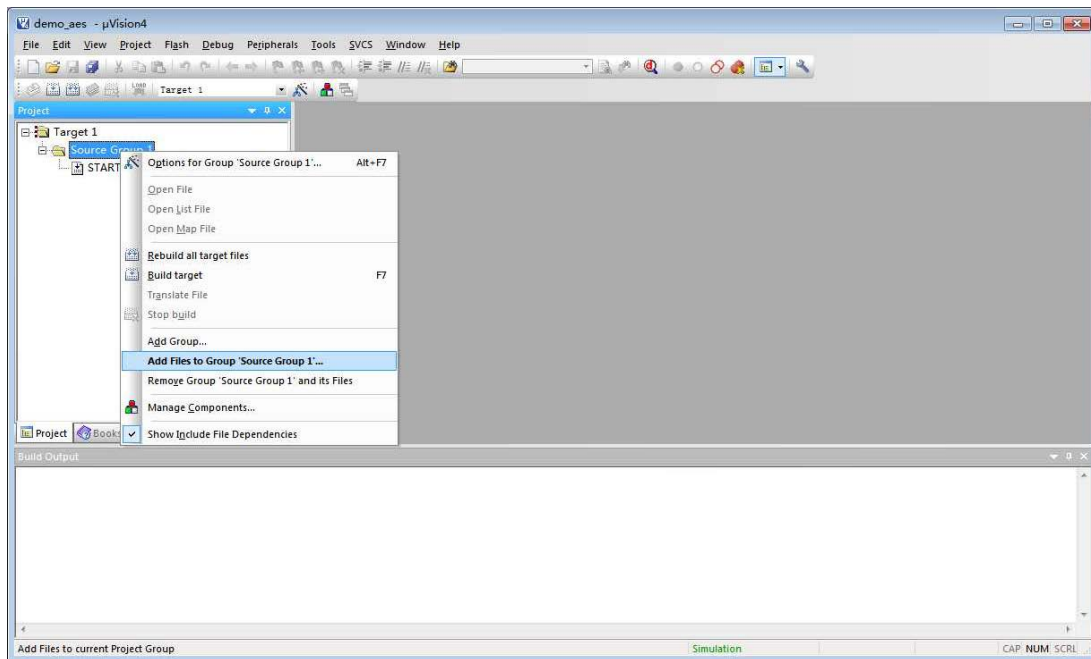

Figure 1-6. Add the Necessary Files
- Step 4: Add `system.c` and `INTERRUPT_PROTEST.a51` file to the project, as shown in Figure 1-6.